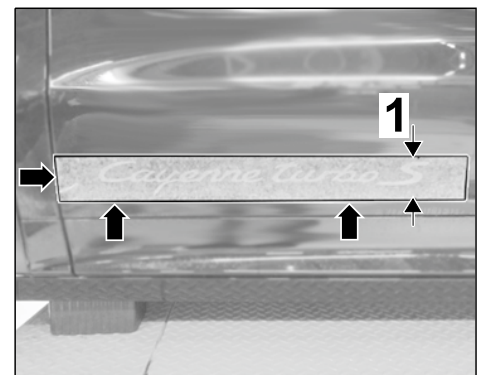

Figure 2
- 1.3 Fit the backing sheet flush with the front edge of the door and the edge of the door (⇒ *Figure 2* arrows). Affix backing sheet with logo flush with the lower edge of the door.